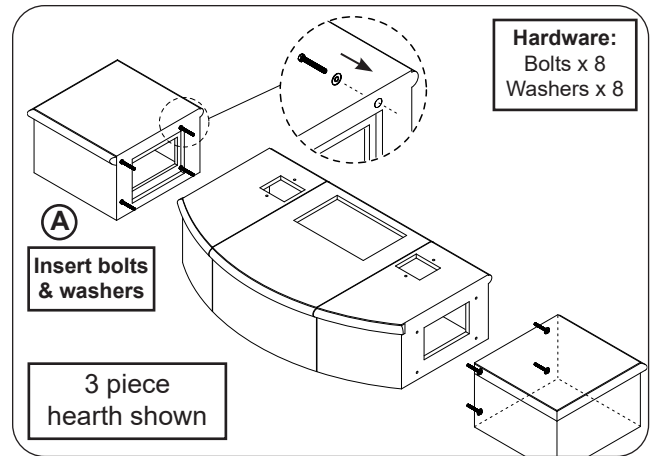

Fig. 24-1 Assemble hearth - arrange (if required)
2. Arrange the hearth pieces in their proper position. Then insert the bolts and washers into the outer pieces of the hearth as shown in Fig. 24-1.